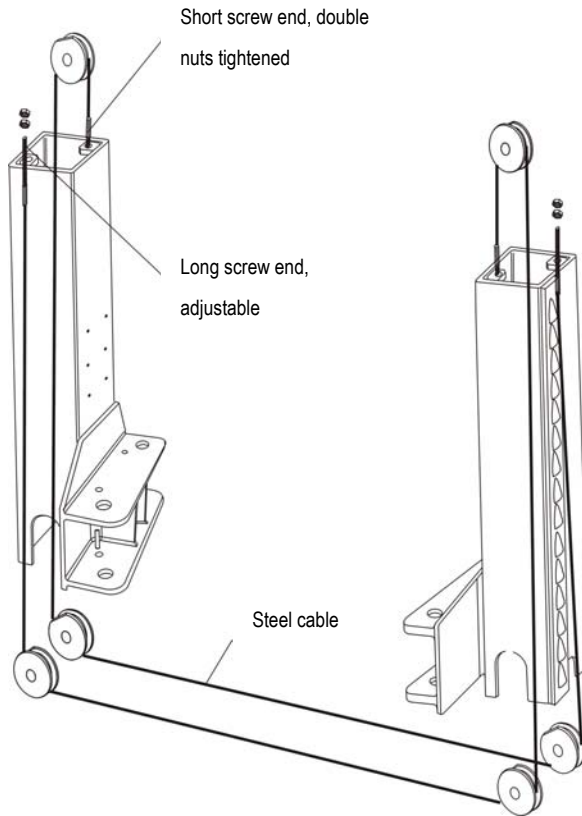
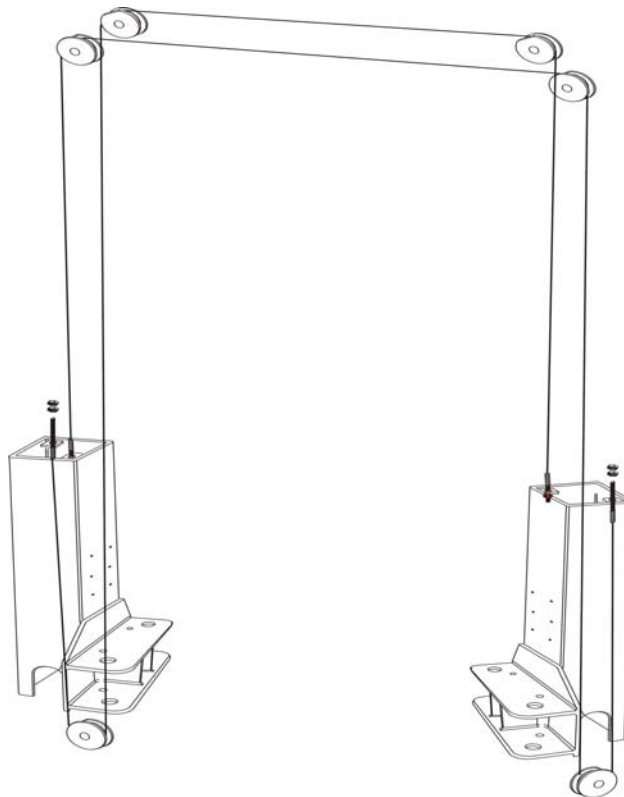

Fig 9b
Fig 9c
- Raise the two carriages to the safety locking position, make sure the two carriages are of the same height from ground. for TLT235SBA、TLT235SBA (E)、TLT240SBA models, route the
steel cables as Fig. 9b shows ,for TLT240SCA、TLT235SCA (U) models, route the steel cables as Fig9c shows..